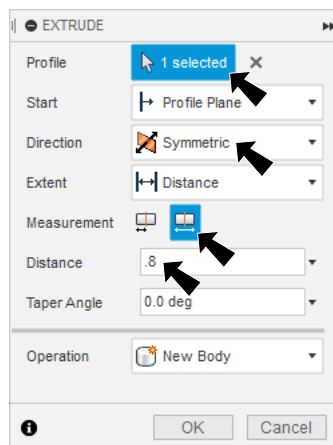

Fig. 3
Step 8. In the Extrude panel set, Fig. 3